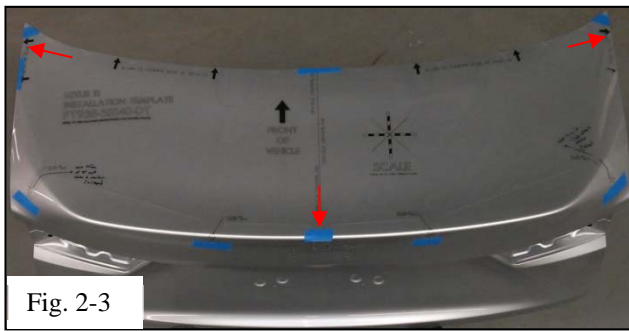

Fig. 2-3
- (c) Align the template left to right using the template edges by ensuring that the edges indicated with arrows are equidistant from their respective edges. The template also includes a feature above the vehicle emblem to assist in alignment if necessary. The template should be centered left to right on the trunk lid (Fig 2-3).